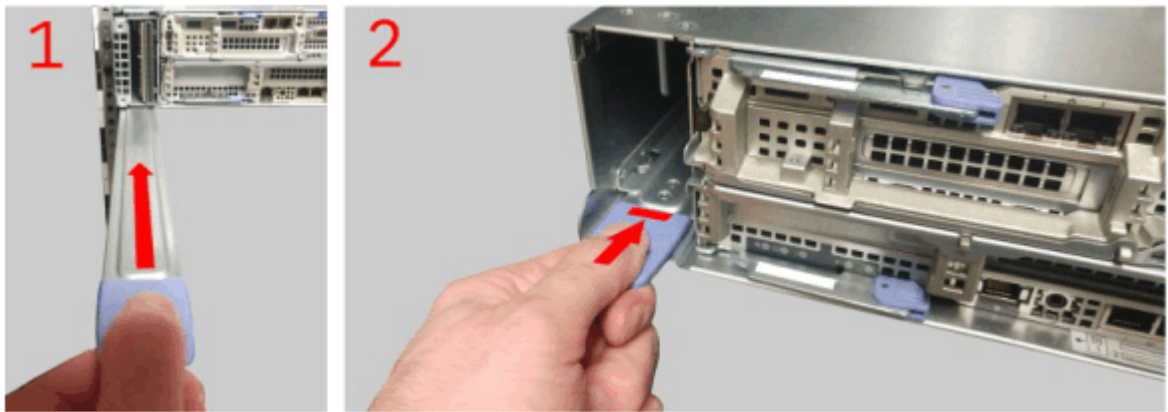

Figure 95. Inserting the new power interposer
5. Hold the power interposer so that the connectors are near the PSU slot, as shown in Figure 95 on page 142 \(1\).
6. Slide the power interposer into the PSU slot until the handle is the only part that is visible at the rear of the enclosure, as shown in Figure 95 on page 142 \(2\).